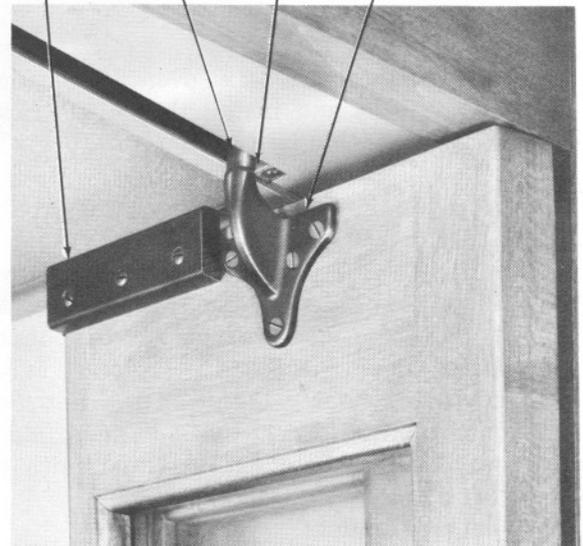

Fig. 1 — Upper Door Assembly
- When the door is equipped with a rectangular guide pin block (P-370165), remove the door guide pin and replace the rectangular guide block with a guide pin roller (P-12A332) as shown in Fig. 1. It will be necessary to relocate the felt bumper (P-12A336) 3/8 inch nearer the center of the door track. Where a guide pin requires replacement, use the P-16A400 door guide pin.